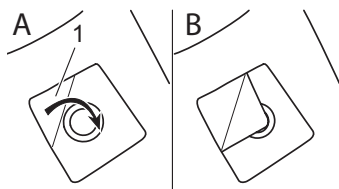

Fig. 21
6. You can close the dust filter bag using the corner (Fig. 21/1/A,B) so that no dust escapes from it during transport.